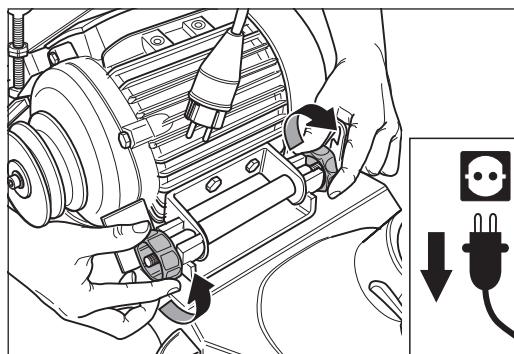

Fig. 46 Loosen the two motor nuts.
- 4 Loosen the two motor nuts at the motor bearing bracket (Fig. 46).